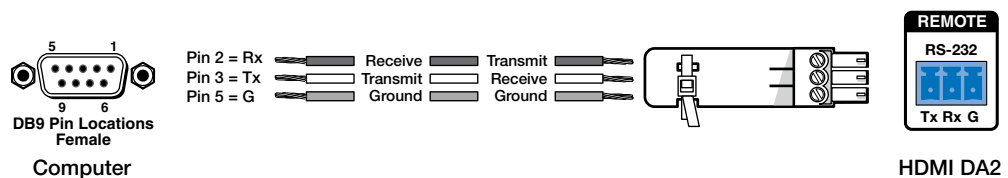

Figure 3. Wiring the HDMI DA2 for RS-232 Control
1. Connect an RS-232 cable, such as Extron universal control cable (UC 50' or UC100') to the computer, using a female 9-pin D connector (see figure 3):
2. Wire the opposite end of the cable to the provided 3-pole captive screw plug (see figure 3):